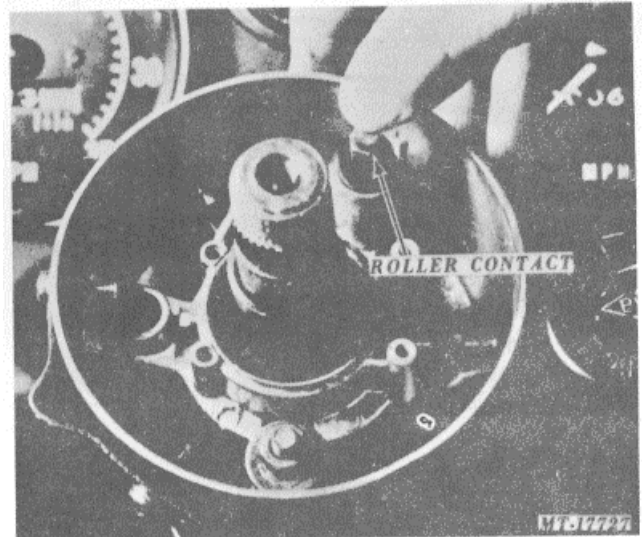

Fig. 4 Checking Contact Roller for Freedom of Movement
1. Install horn button contact ring on reverse side of the steering wheel hub with (2) screws. Lubricate contact ring with IH 251 HEP grease or the equivalent NLGI #2 multi-purpose lithium grease.
2. Check contact roller for freedom of movement in housing (see Fig. 4). Make certain that the spring seat and bearing spacer is in place on the steering shaft.